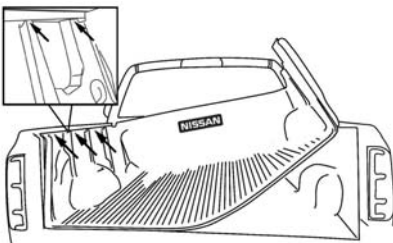
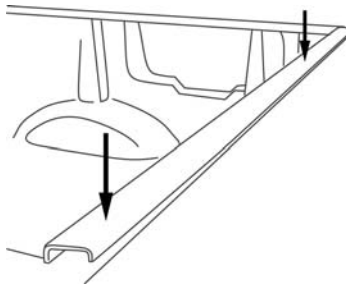

Figure 4
Figure 5
- 4) Place the bedliner in the bed by lifting the passenger's side so that the driver's side is installed under the side rail. (See Figure 4). Make sure the front rail of the bedliner is over the front rail of the bed. (See Figure 5).